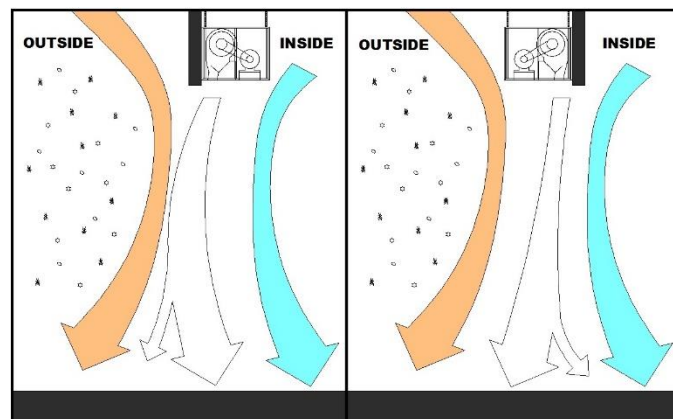

FIG. 3
- H. Regardless of whether the product is mounted on the inside or outside of the door opening, set the air directional vanes in the discharge nozzle slightly outward to approximately 10-15° towards the outside, or the wind load. (FIG. 3).